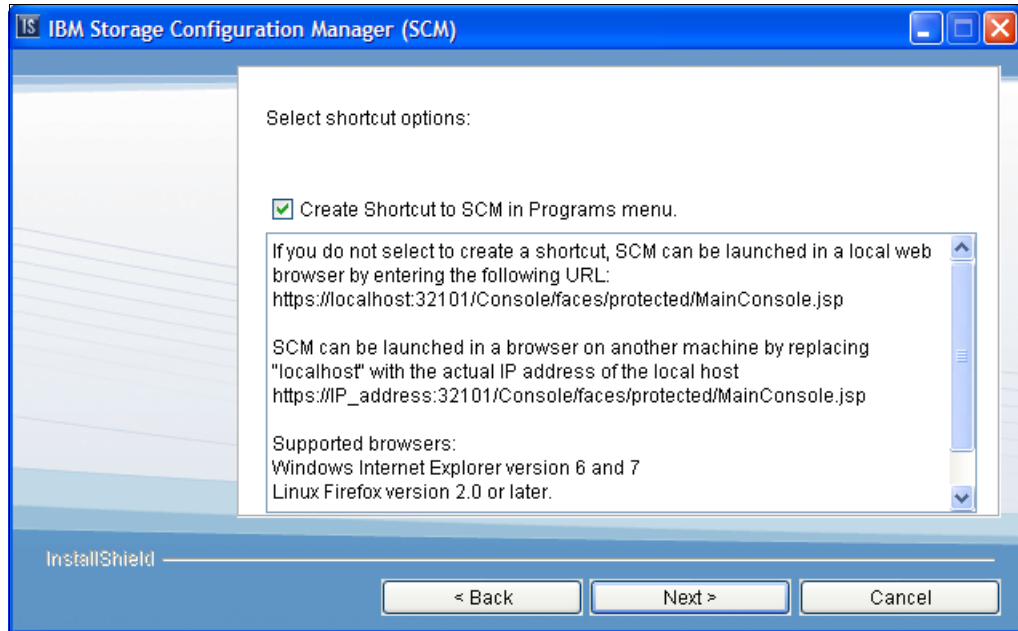

Figure 2-29 Launch and shortcut options
7. In the “Select shortcut options” panel (Figure 2-29), select the **Create Shortcut to SCM in Programs menu** check box to create a shortcut in Programs directory. Click **Next**.